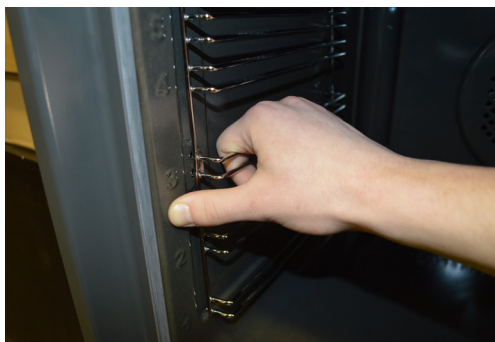

Fig. 7
- Take a firm hold of the shelf support in the middle. Place your thumb against the oven wall and lever the support out of the support holes (Fig. 7)